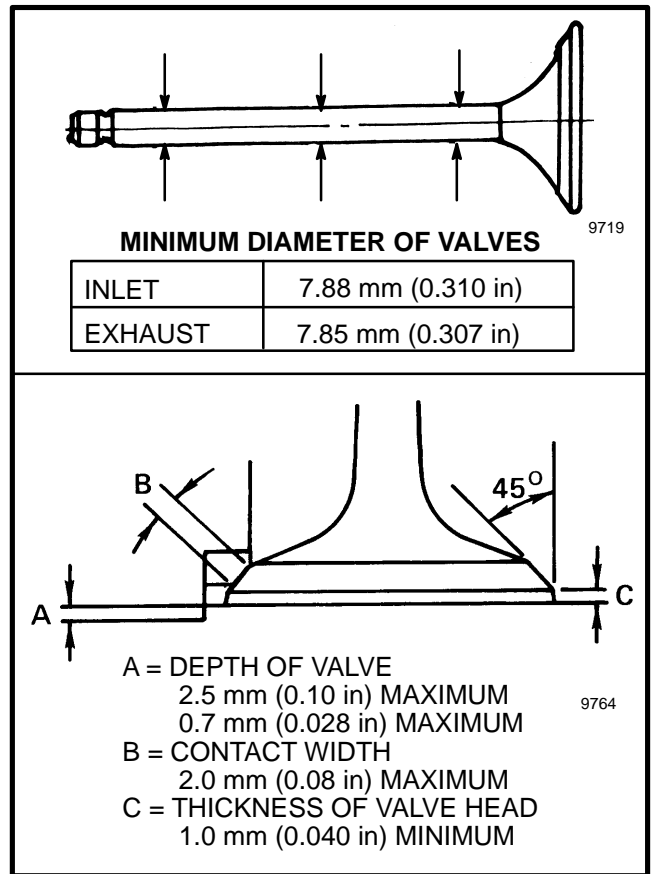

FIGURE 17. VALVE SPECIFICATIONS
NOTE: After grinding the cylinder head, check the depth of the valves. See the valve specifications in FIGURE 17.
1. Inspect the stem of each valve for wear. Use a micrometer to measure the outside diameter at the positions shown in FIGURE 17. If the measurement is less than the valve specification, replace both the valve and the valve guide.
3. If the valves need grinding, see the valve specifications in FIGURE 17.
4. After installation, check the depth of the valve and the width of contact. See FIGURE 17.